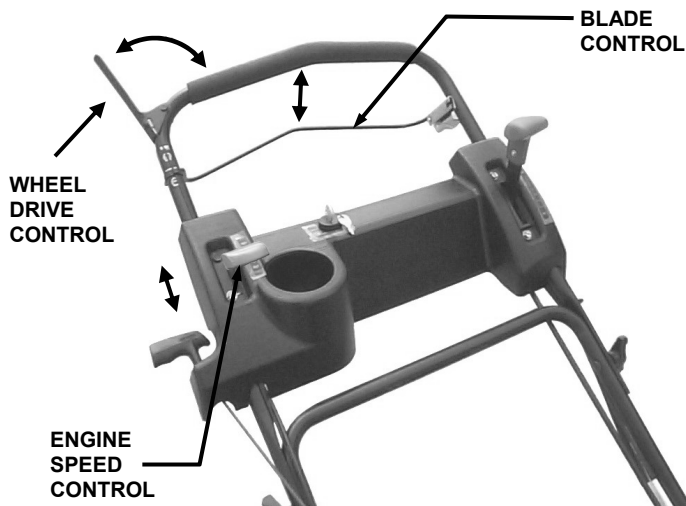

FIGURE 2.1
2.1.2. Check blade control, wheel drive control, and engine speed control to insure they work freely. See Figure 2.1.